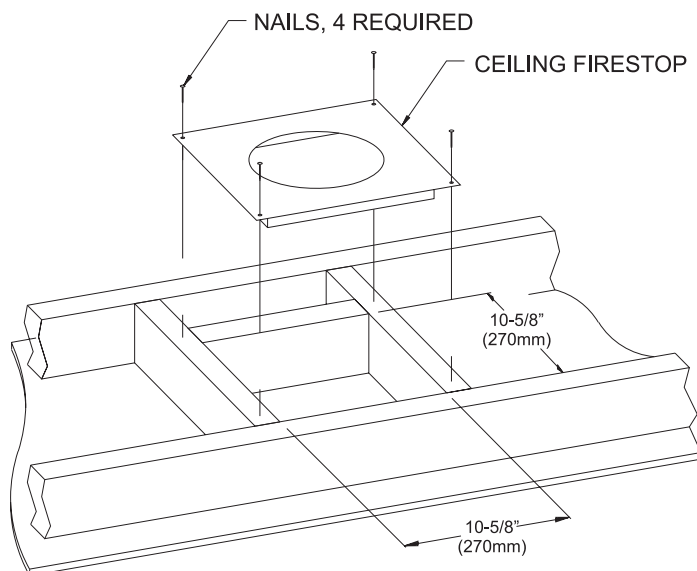
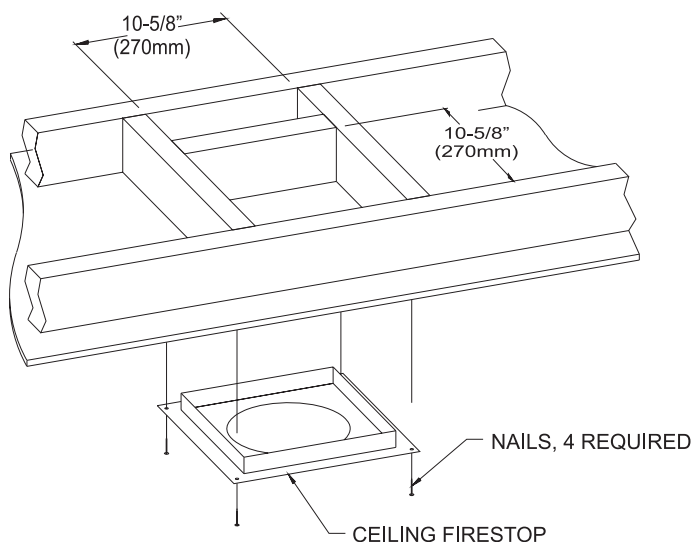

Figure 53
Figure 52
**See Figure 52.** If the area above the ceiling is an attic, position and secure the firestop on top of the previously framed hole. **See Figure 53.**